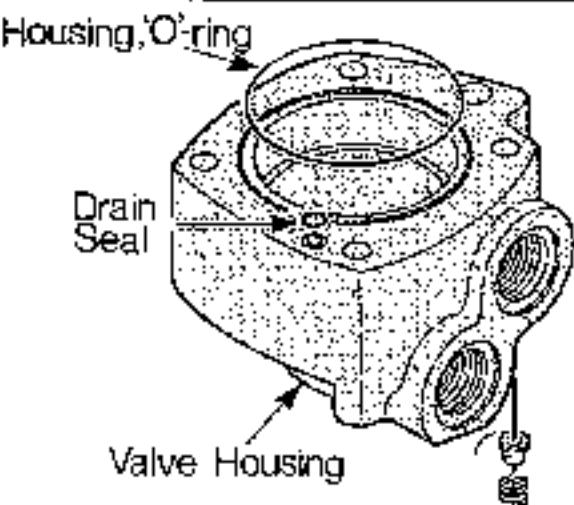

Fig. 2.3.6d
4. Remove the following parts from the valve housing (fig. 2.3.6d).